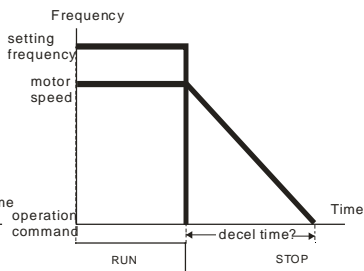

Figure 2: free run to stop
- (2) If motor free running is allowed or the load inertia is large, it is recommended to select “coast to stop”. For example: blowers, pumps and mixers .(figure 2)